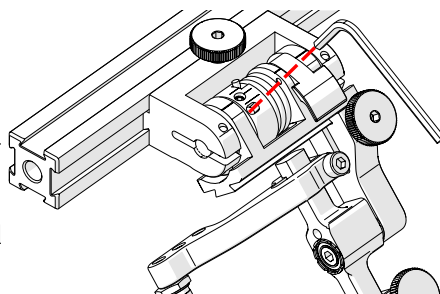

Fig. 163 - Unlatched position
3. Insert the short arm of a 3 mm hex wrench into the 3 mm slot (Fig. 163).